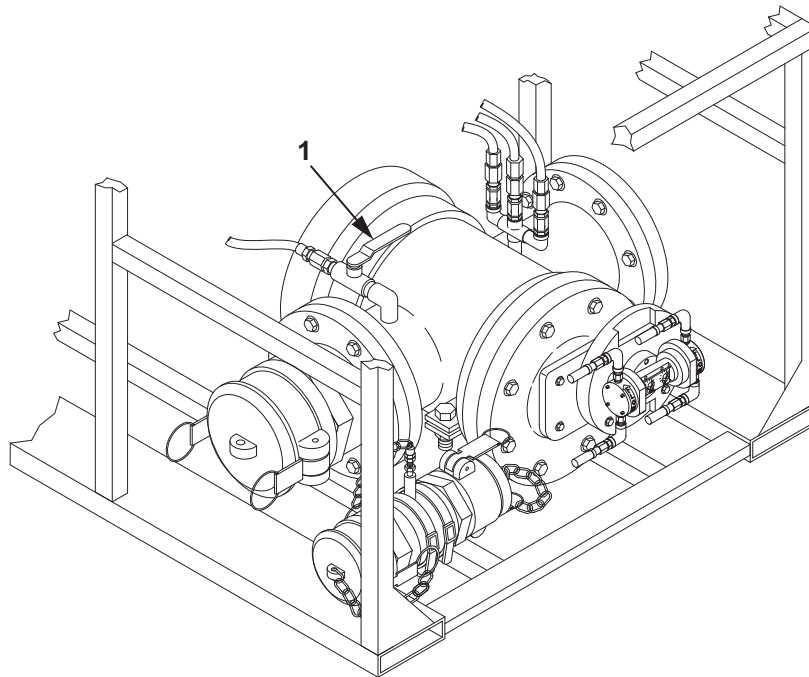

Figure 2. Fuel Additive Injection Assembly Priming Valve.
4. Place priming valve (Figure 2, Item 1) in the on position for 30 seconds.
6. Position priming valve (Figure 2, Item 1) to the off position.